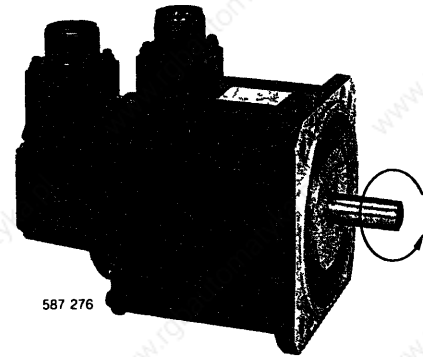

Fig 9.1 Motor Forward Running
- When the reference voltage is positive, the motor rotates forward (counterclockwise rotation when viewed from drive end-output shaft) (Fig. 9.1)